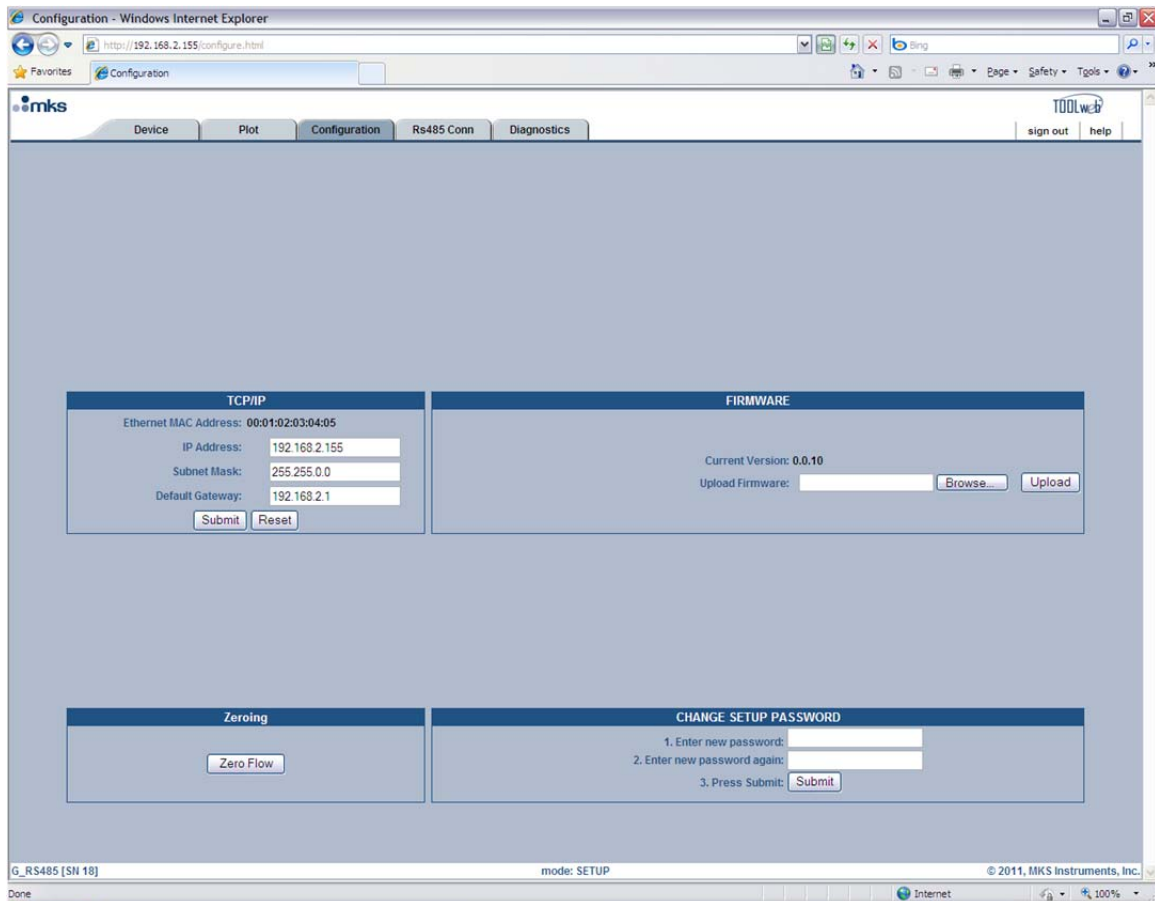

Figure 18: Embedded GUI, Configuration Page in Setup Mode
- Manually - Depress and hold the zero ("Select") button on the top of the device enclosure for three (3) seconds.
- Via the Ethernet UI – Connect to the device using the Ethernet UI and enter the Setup Mode. Go to the Configure Tab and zero using the "Zero Flow" button on the screen. See Figure 18.
- Electronically (15 Pin D analog only) – Pull Pin 9 to ground for three (3) seconds.